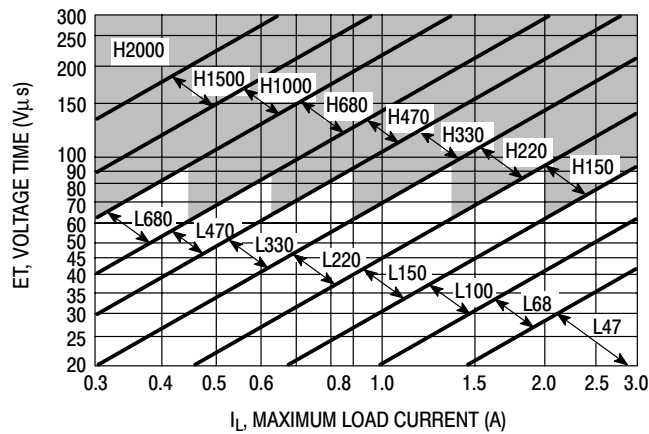

Figure 22. LM2576-ADJ
4. Inductor Selection (L1) A. Use the following formula to calculate the inductor Volt x microsecond [V x μs] constant: $E \times T = (V_{in} - V_{out}) \frac{V_{out}}{V_{in}} \times \frac{10^6}{F[\text{Hz}]} \text{ [V} \times \mu\text{s]}$ B. Match the calculated E x T value with the corresponding number on the vertical axis of the Inductor Value Selection Guide shown in Figure 22. This E x T constant is a measure of the energy handling capability of an inductor and is dependent upon the type of core, the core area, the number of turns, and the duty cycle. C. Next step is to identify the inductance region intersected by the E x T value and the maximum load current value on the horizontal axis shown in Figure 25. D. From the inductor code, identify the inductor value. Then select an appropriate inductor from Table 2. The inductor chosen must be rated for a switching frequency of 52 kHz and for a current rating of $1.15 \times I_{Load}$. The inductor current rating can also be determined by calculating the inductor peak current: $I_{p(\text{max})} = I_{Load(\text{max})} + \frac{(V_{in} - V_{out}) t_{on}}{2L}$ where t_{on} is the “on” time of the power switch and $t_{on} = \frac{V_{out}}{V_{in}} \times \frac{1.0}{f_{osc}}$ For additional information about the inductor, see the inductor section in the “External Components” section of this data sheet.	4. Inductor Selection (L1) A. Calculate E x T [V x μs] constant: $E \times T = (25 - 8.0) \times \frac{8.0}{25} \times \frac{1000}{52} = 80 \text{ [V} \times \mu\text{s]}$ B. E x T = 80 [V x μs] C. $I_{Load(\text{max})} = 2.5 \text{ A}$ Inductance Region = H150 D. Proper inductor value = 150 μH Choose the inductor from Table 2.